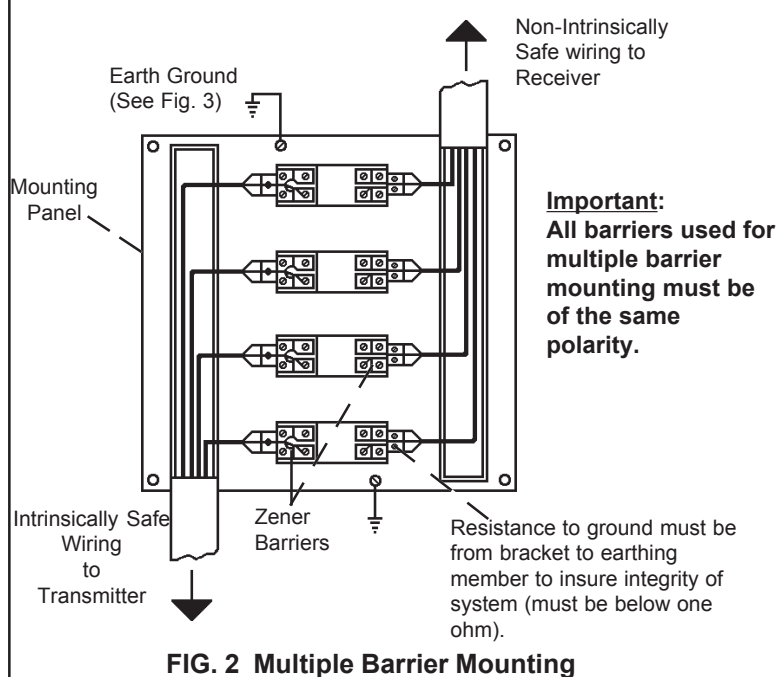

FIG. 2 Multiple Barrier Mounting
4. To serve multiple tank installations, additional barriers may be placed in an enclosure using a common earthing ground. (See Fig. 2) In this enclosure, the intrinsically safe wiring should be segregated from non-intrinsically safe wiring by independent raceways, wiring trays or other adequate means to insure installation integrity. Minimum field wiring insulation thickness not to be less than .010".